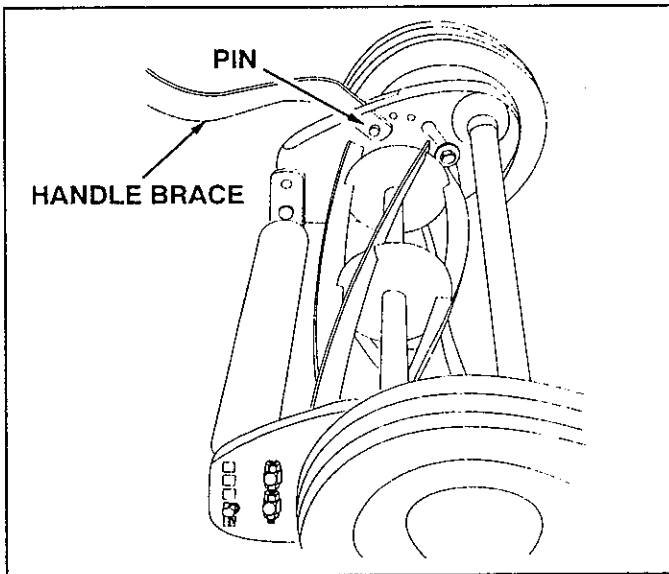

FIGURE 2
2. Insert the short end of the two handle braces through the slots and over the two pins in the end plates. See figure 2.